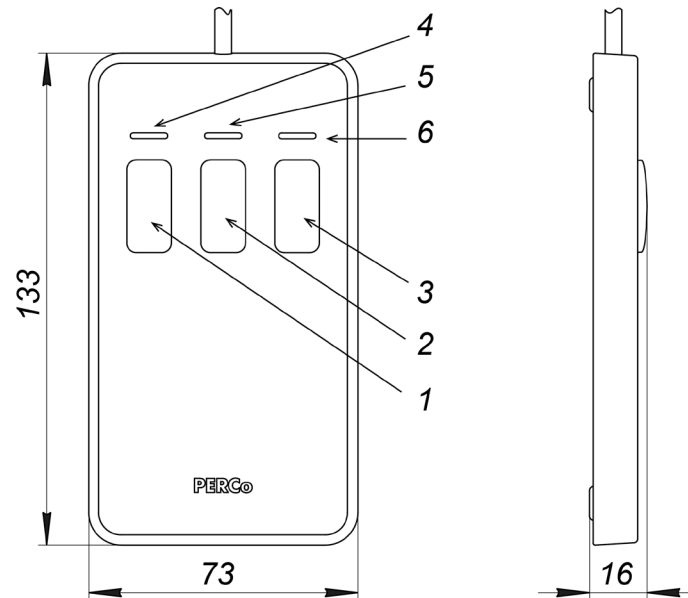

Figure 6. Overall view and dimensions of the RC panel
The RC panel (10) is designed as a small desktop device in a shockproof ABS plastic case and is intended for setting and indicating operation modes when the turnstile is controlled manually. The overall view of the RC panel is shown in Fig. 6.